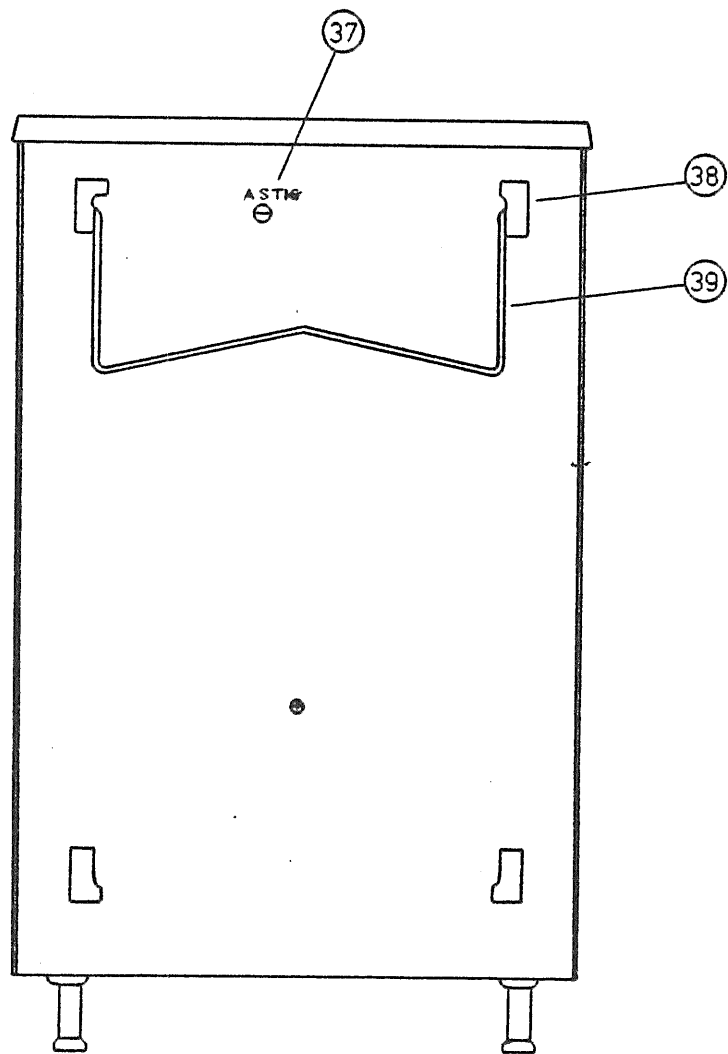

Fig. 3
③④	—	AC power cord of the oscilloscope
③⑤	—	Studs for using the oscilloscope in a vertical attitude. Also used as AC power cord take-up posts.
③⑥	(FUSE)	Fuse holder. Fuse rating is 0.5 A for 100 V system AC line or 0.3 A for 200 V system AC line. For replacing the fuse, remove the cap by turning it counterclockwise.
3.3 Explanation of Bottom Panel (See Fig. 3)